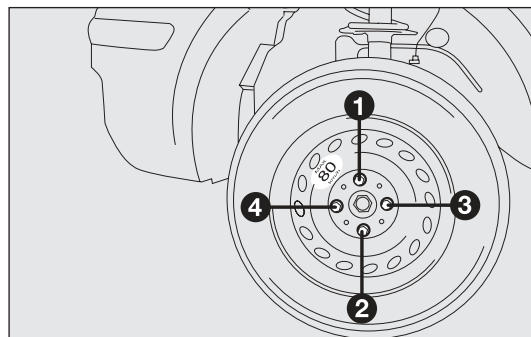

fig. 149
- ☐ use the wrench provided to fasten the bolts completely in a criss-cross fashion as per the order illustrated in fig. 149;